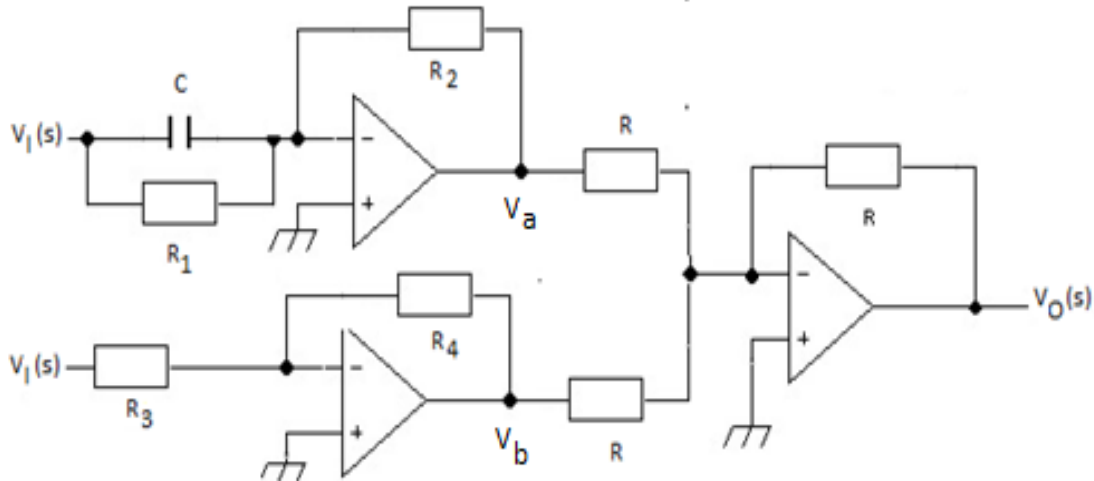

Fig. Q1a)
- a) Given the PD controller in Fig. Q1a) (ii), determine the values of R_2 and C for proportional and derivative gains of $K_P = 8$, $K_D = 12$ given that $R_1 = R_3 = 5k$, $R_2 = R_4$.